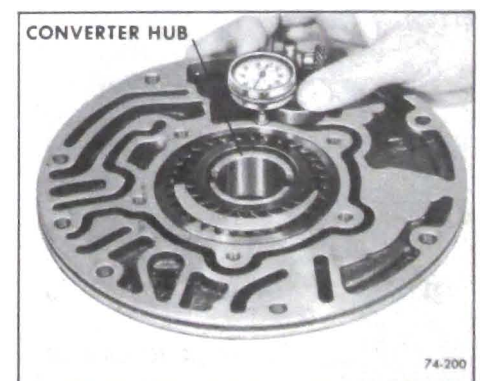

Figure 74-190
a. Install pump on converter hub. With dial indicator set, check end clearance. The clearance allowed is .0005" - .0035". See Figure 74-190.